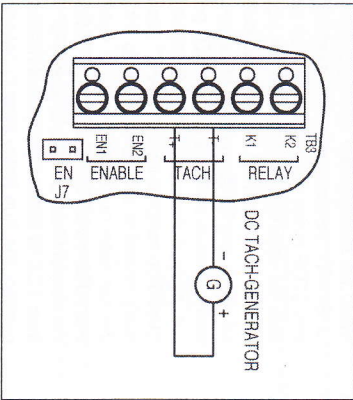

FIGURE 13 – DC TACH-GENERATOR
L. DC Tach-Generator Connection – Wire the tach-generator to T+ (+) and T- (-) terminals of TB4 as shown in Figure 13. Jumper J1 must be in "T" position. Jumper J4 must be in "TV" position for 7 Volt per 1000 RPM tach-generators or "50V" position for 50 Volt per 1000 RPM tach-generators. See section IVD on page 11.